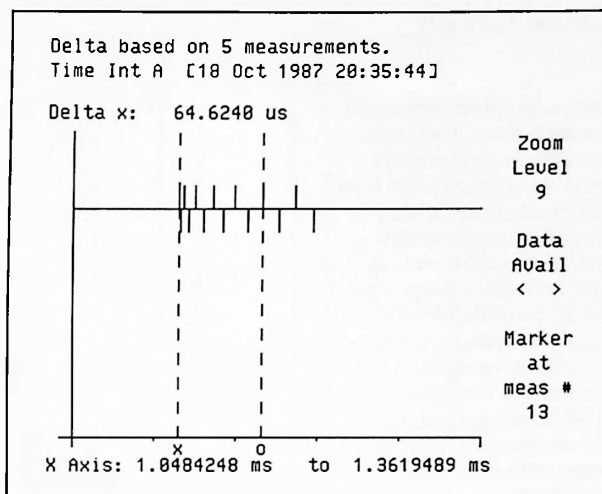

Figure 17. In the event timing mode, the time interval between any two events in a long series can be measured with full (150 ps rms) resolution.
3) Event Timing graph - shows, in a linear fashion, all the start and stop events received during the last block of a measurement session. The upward ticks are the start events and the downward ticks are the stop events. Markers then allow you to measure the time between any two trigger events (Figure 17).